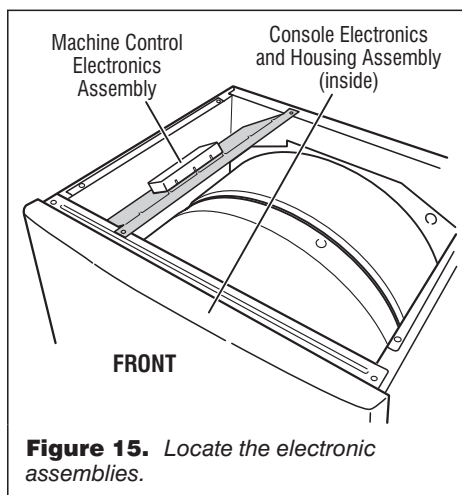

**Figure 14.** Pull the toe panel down to clear flange, then pull panel out.
3. Slide the toe panel down, then pull it out from the bottom. See figure 14.